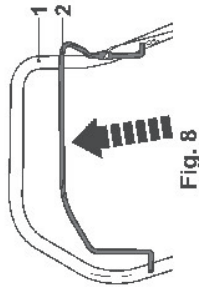

Fig. 8
1. Pull the brake bar (2) towards the handle (1) and hold it in position when starting the engine. Keep it squeezed during operation (Fig. 8).
2. Release the brake bar (2) to stop the engine.